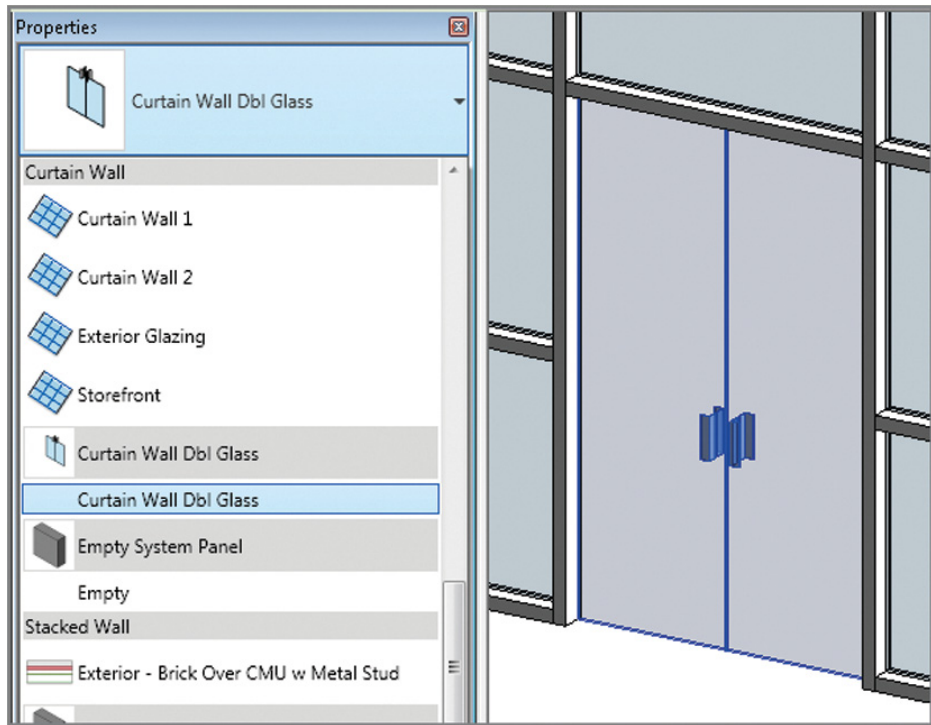

FIGURE 2.29 Exchanging the panel for a door
3. Select the panel, and click the pin icon. Now you can select a new panel type from the Type Selector palette. Choose Curtain Wall Dbl Glass, and the panel appears in the wall segment, as shown in Figure 2.29.